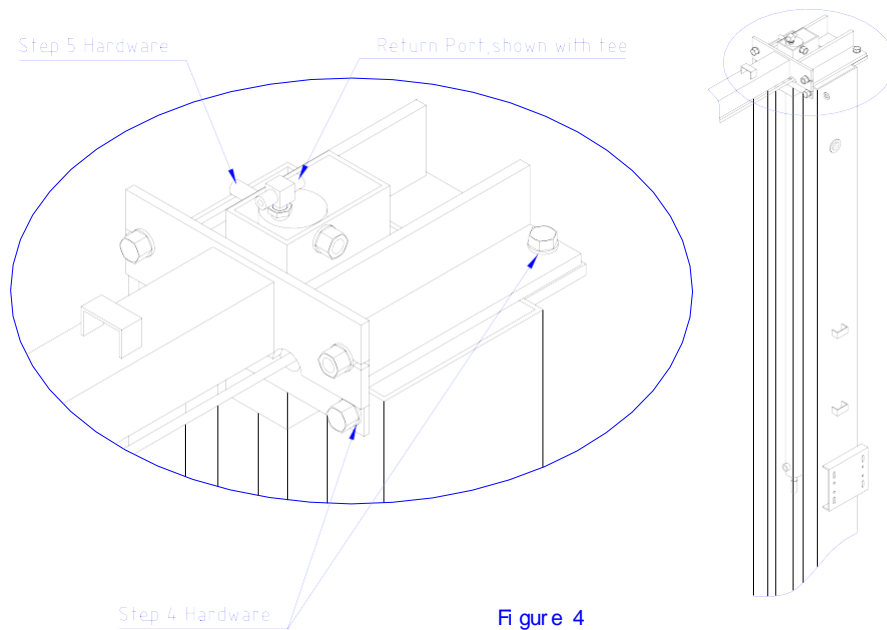

Figure 4
4. Attach the cylinder mount or uprights. Attach the cylinder mounts or uprights to the legs **using four ½" X 1-¾" bolts, washers and nuts as shown in figure 4.**
- D. Install the cylinders to the uprights or cylinder mounts with **9/16" x 4-1/2" pins, cylinder bushings (spacers), and snap rings, figure 4**. The port near the rod end of the cylinders should be positioned pointing to the leg's open side. High Rise cylinders must be attached to the alternate hole near the top of the upright.